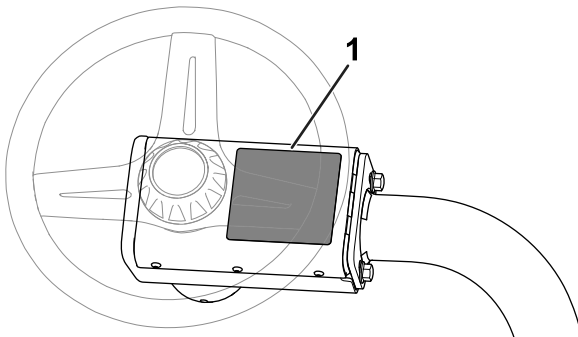

Figure 6
- **CE warning decal:** Apply the CE warning decal (Part Number 139-8321) over the existing warning decal (Part Number 139-8320) on the steering-wheel cover; refer to Figure 6.